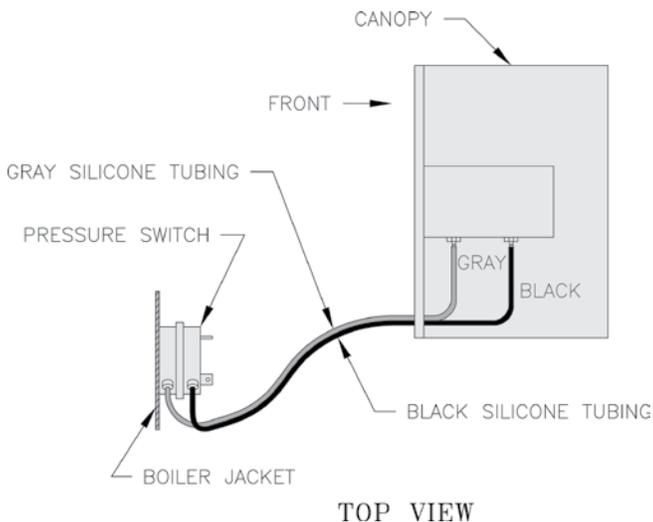

Figure 27: Silicone Tubing Assembly
12. Connect Silicone Tubing between Pressure Fittings on Canopy Assembly and Pressure Switch. Route through bushings in Vestibule Panel . See Figure 27.
4. Stop boiler, remove manometer and reconnect hoses to differential pressure switch. See Figures 27 and 30.